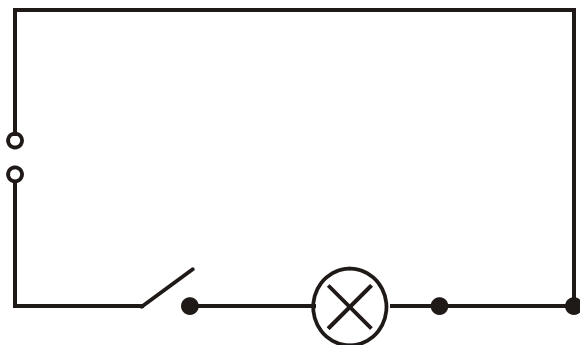

Fig.1 Circuit diagram
- Set up the circuit as shown in Fig. 1.